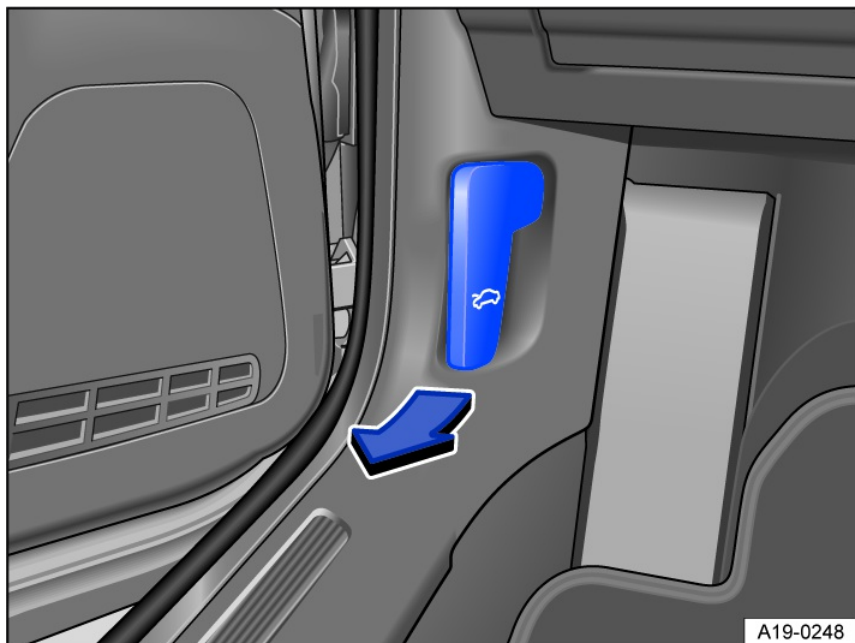

Fig. 134 In the driver's side footwell: Release lever for the hood (general example).
1. Open the driver door and pull the release lever in the direction of the arrow fig. 134. The hood will pop open due to spring force from the catch in the lock carrier ⇒ .